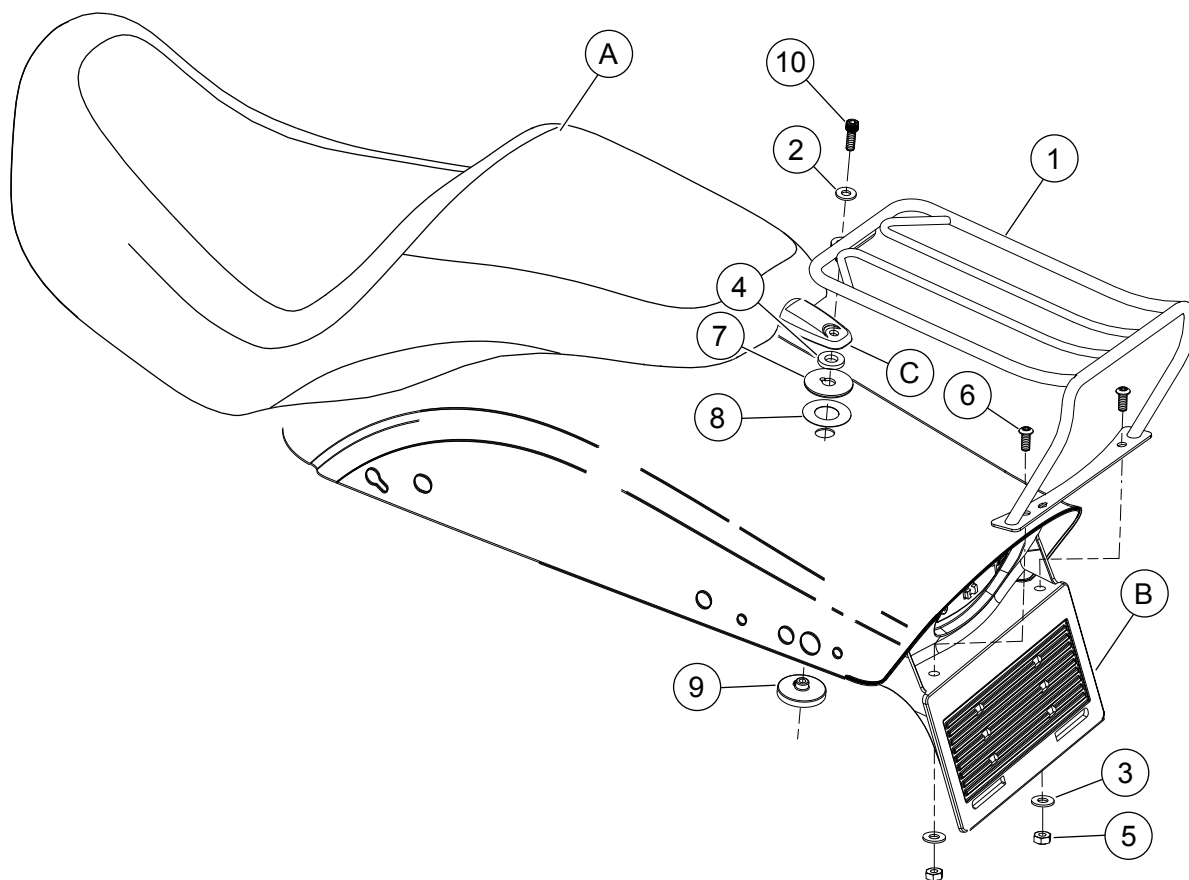

Figure 3. Service Parts: Bobtail Fender Rack
See Figure 3 and Table 1.
1. See Figure 3 and Table 1. Remove the adhesive backing from protective tape (8). Align and install the tape on the fender around the fender mounting hole.